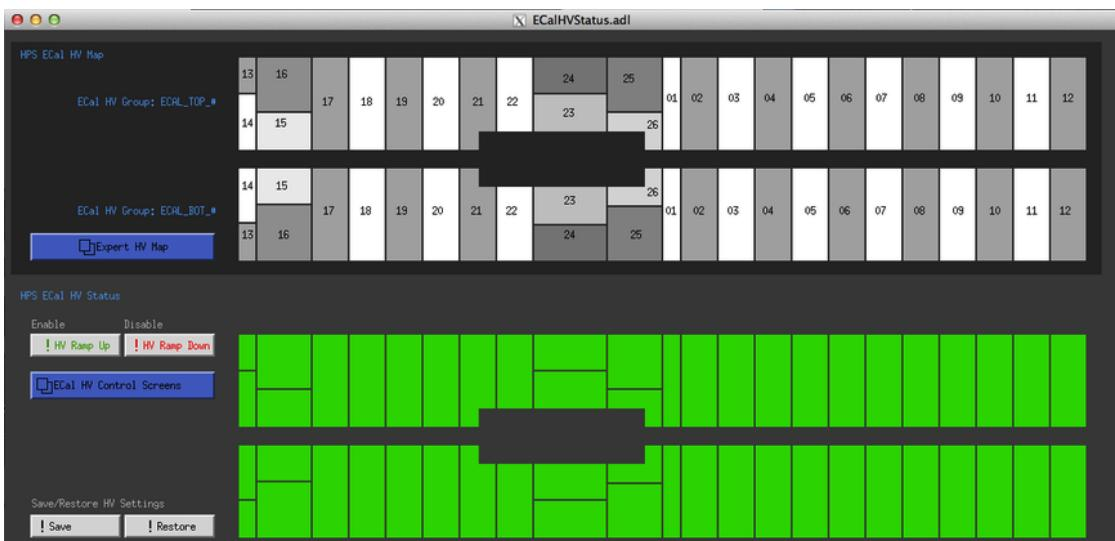
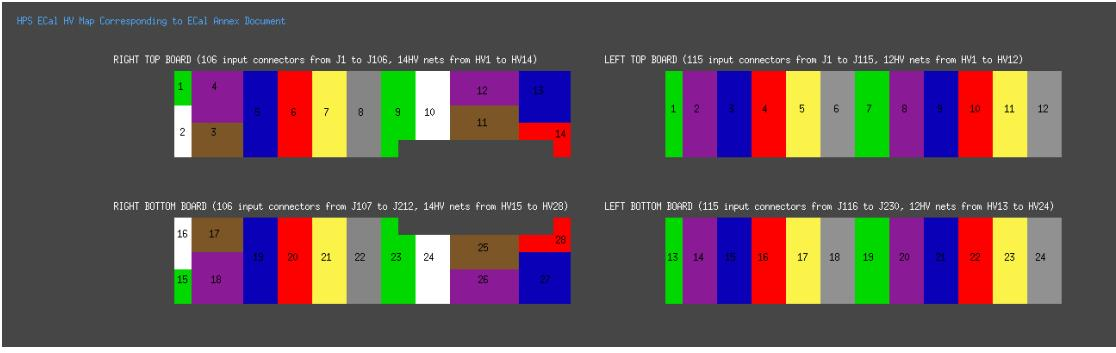
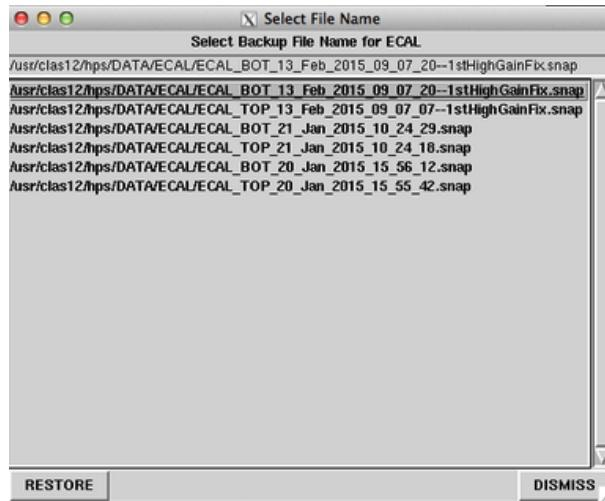

Figure 20: View of the EPICS ECal HV expert monitoring window.
Figure 21: Expert HV channel map for reference.
Figure 23: The gui interface to save/restore HV settings.
Occasionally the soft IOC for the HV needs to be manually restarted. Symptoms of this condition include errors messages from EPICS when trying to turn on/off voltages and white blocks in the main HV screen (figure 20). *Note, the IOC always needs to be restarted if the HV CAEN mainframe is power cycled.*
**NOTE:** The ECal HV groups were renumbered for EPICS, and the correspondence map (figure 21) is available in the expert ECal HV monitoring window (Figure 20) via the “Expert HV Map” button.
A system to save and restore the entire calorimeter’s voltage settings is available via buttons in the ECAL HV expert window in Figure 20. If the voltage setpoints are changed, a backup should be made
of the new settings. This must be run as a user in group `clas-4`; user `hpsrun` does not have sufficient privileges to save/restore voltage settings. An example of the restore window is shown in figure 23, which is accessible from the HV expert screen shown in Figure 20.